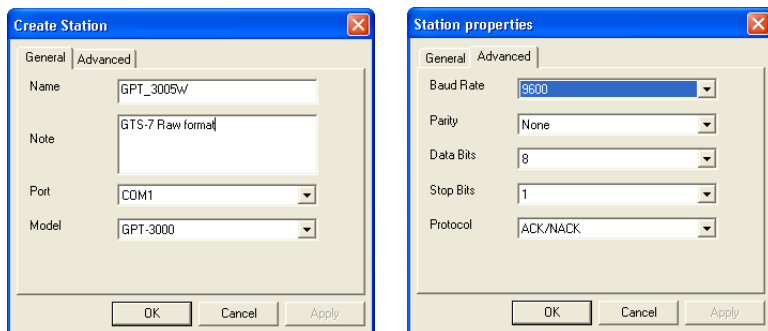

Figure 3-42. Total Station Properties
4. Enter *Name*, *Notes*, the *Port* the device connects to, and the *Model*. Enter the *Baud Rate*, *Parity*, *Data Bits*, *Stop Bits*, and/or *Protocol* used for communication (Figure 3-42). Click **OK**.